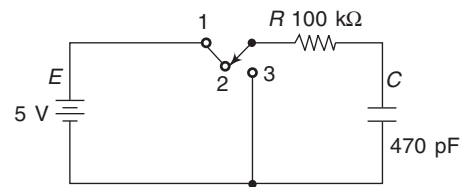

Fig. 8.38 For Problem 12.
11. The capacitor in Fig. 8.38 is initially discharged. How long after the switch is moved from position 2 to position 1 will it take the capacitor to reach 4 V?
12. Assume that the capacitor in Fig. 8.38 is initially charged to 4 V. How long after the switch is moved from position 2 to position 3 will it take for the voltage to drop to 2 V?